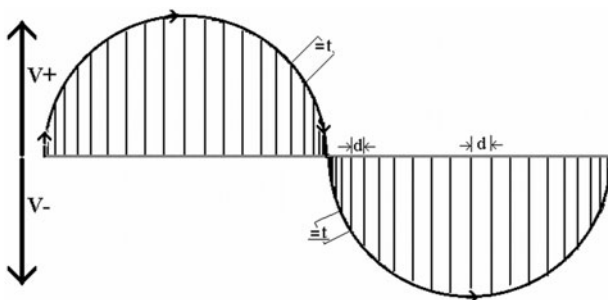

Figure L53-8
3. It is not easy to show something that moves backward, because time moves forward. So Figure L53-8 shows the negative voltage movement happening after the positive voltage.